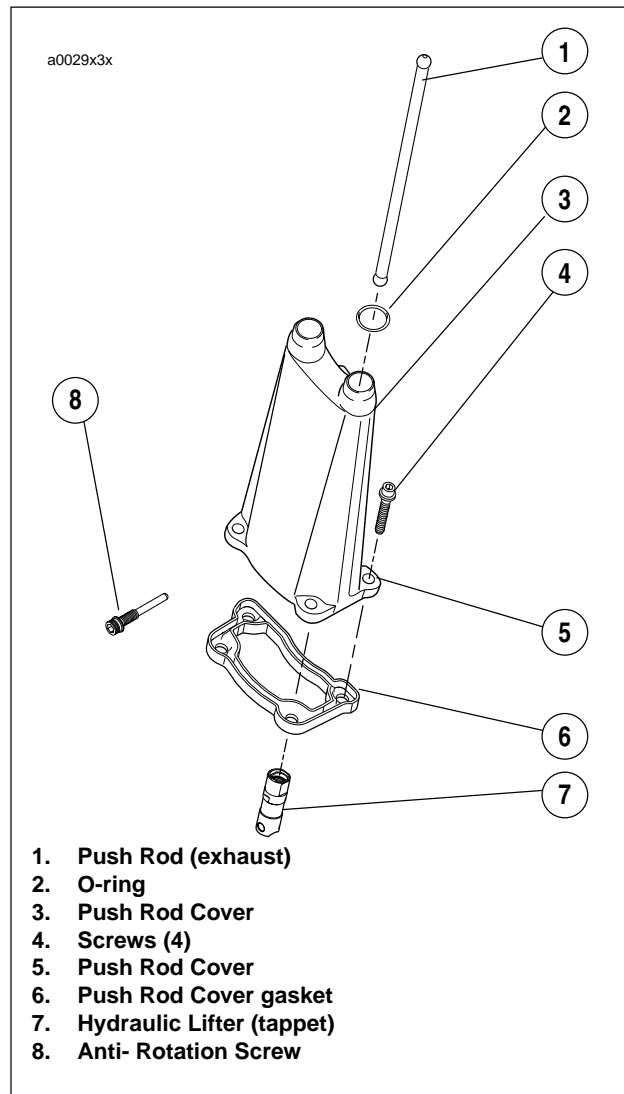

Figure 3-96. Valve Lifter Service
4. See Figure 3-96. Remove push rod cover.
3. See Figure 3-96. Insert lifter into bore in crankcase. Rotate lifter so that flats at upper end of lifter face the front and rear of the engine. If the lifter is installed incorrectly, anti-rotation screws cannot be inserted.